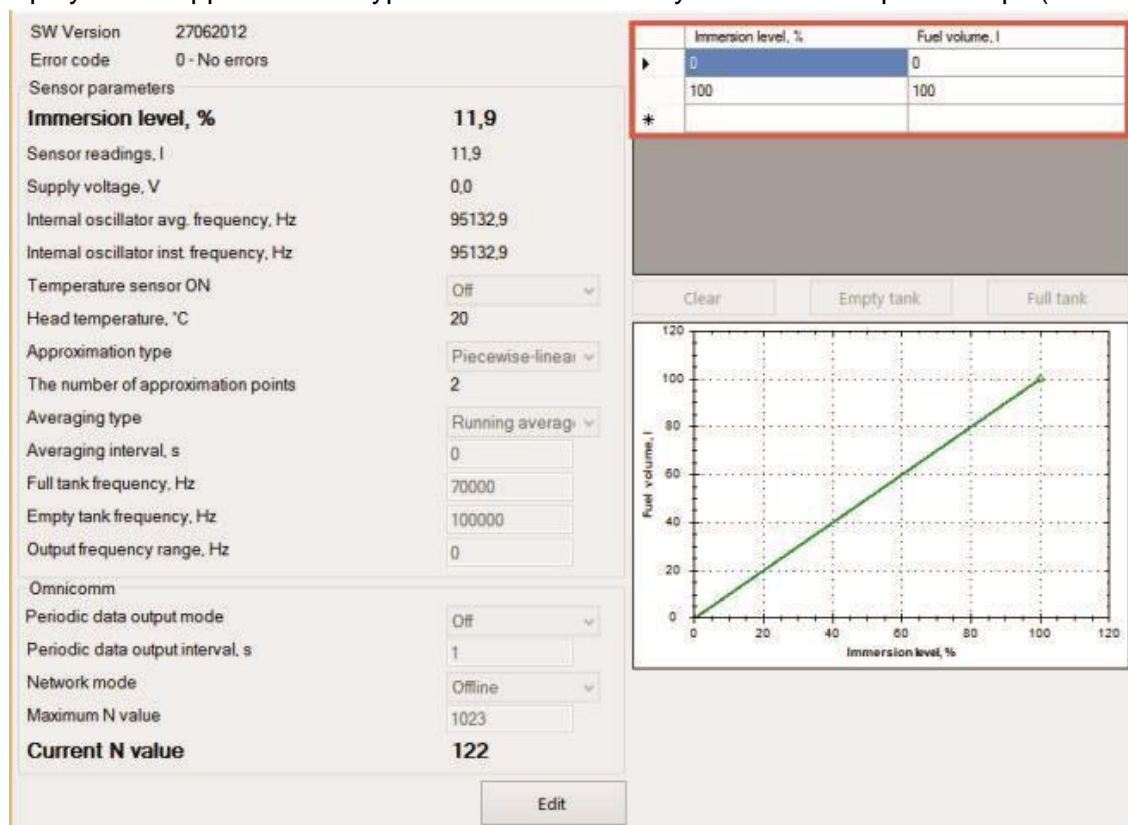

Figure 26 - The piecewise linear approximation
- For the piecewise linear approximation type (Fig. 26), enter the following lines in the calibration table: level of immersion in % and the corresponding value of the amount of fuel in liters. You allocate any strings (not necessarily strictly ascending or descending). Mistakenly entered lines can be removed.